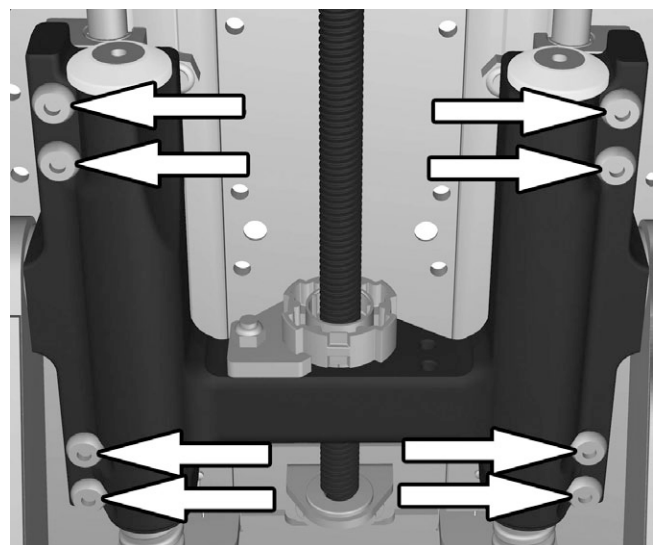

Figure 123. Remove the eight screws holding the sleigh.
7. Remove the eight screws holding the sleigh. See fig. 123.